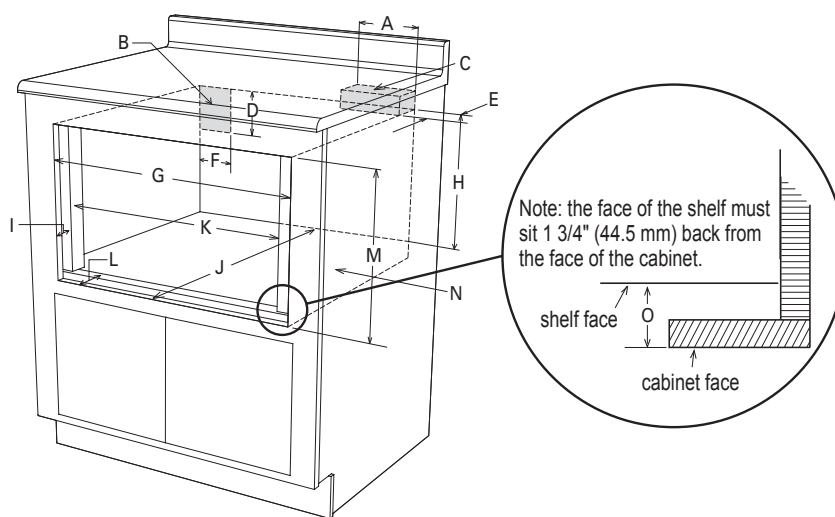

Figure 3
Dimensions that are shown in Figure 3 must be used. Given dimensions provide minimum clearance. Locate electrical outlet in the shaded area in the upper left-hand corner of the cutout. See Figure 9.
1. Prepare cabinet opening as shown in Figures 3, 4A, 4B, and 4C.